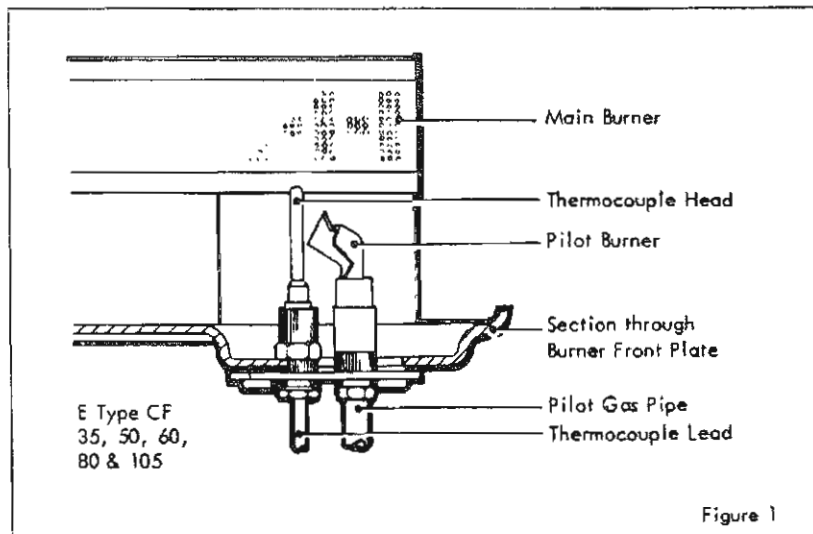

Figure 1
1. The pilot flame impinges on the thermocouple head and that the position of the thermocouple relative to the pilot burner and the main burner is as shown (see Fig.1)